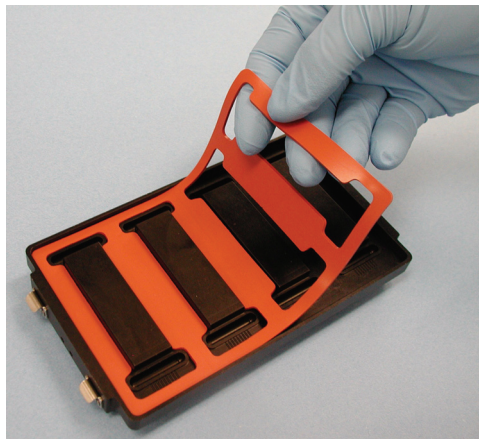

Figure 141 Placing Gasket into Hyb Chamber
- b. Lay the gasket into the Hyb Chamber (Figure 141), and then press it down all around.